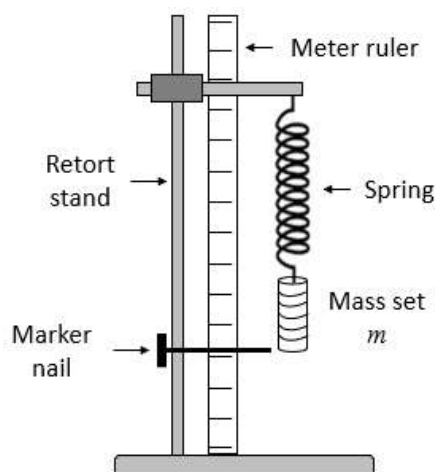

Figure 1
1. Fix the spring securely to the retort stand. Attach a 100 g mass hanger as shown in Figure 1.